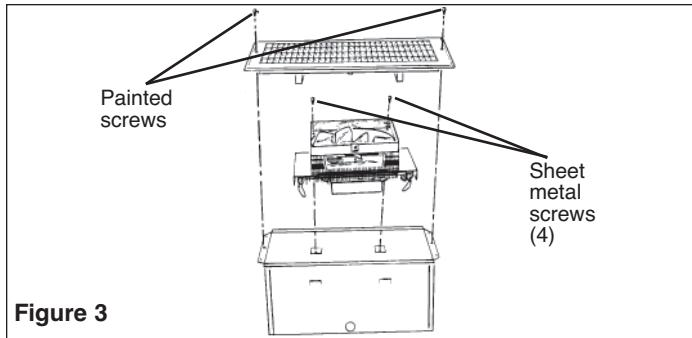

Figure 3
Slide heater assembly into the enclosure part way so the plug can be inserted into receptacle in junction box cover. After plug is fully inserted into receptacle, push heater down in position and secure with two (2) screws provided. (See Figure 3)
- Place the grille over the enclosure and secure with the two painted screws provided as shown in Figure 3. (See Warning No. 7).